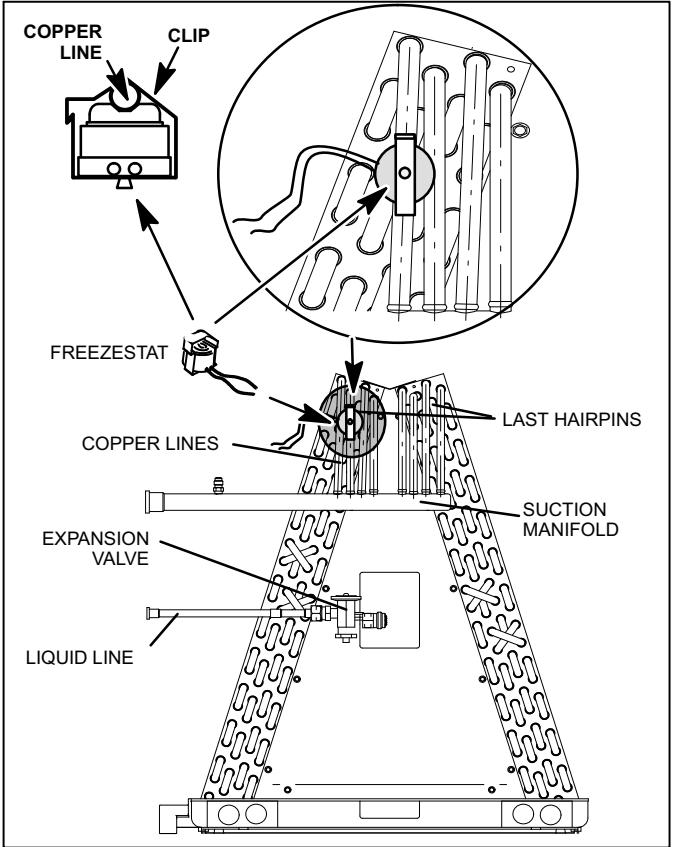

Figure 4. Typical Freezestat (S49) Installation (Indoor Coil)
- A freezestat, sized per table 1 and ordered separately, must be installed. Install the freezestat on one of the copper lines between the last hairpins and the suction manifold (see figure 4).